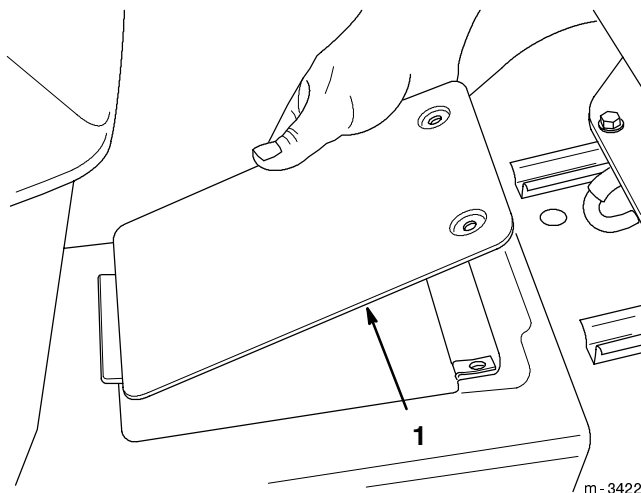

Figure 30
3. Open the drive shaft maintenance cover on the tractor tunnel near the seat by unscrewing the two screws securing it, then raising it (Fig. 30).